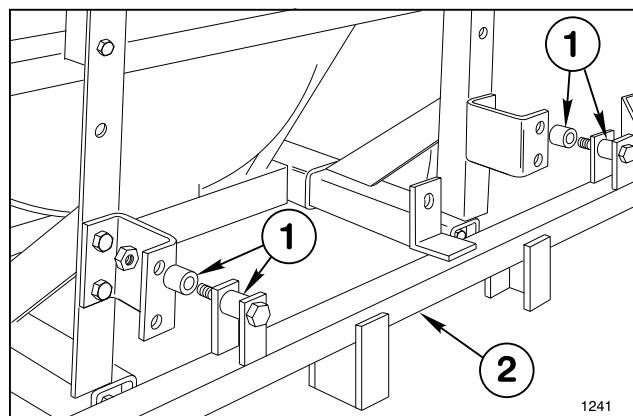
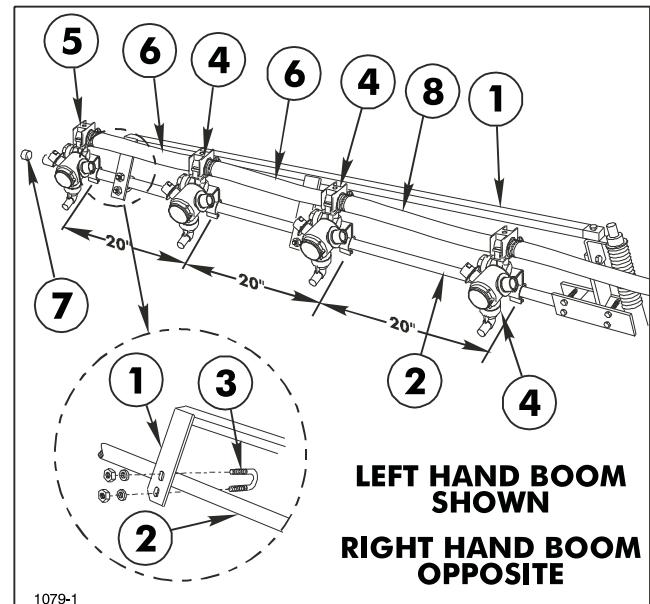
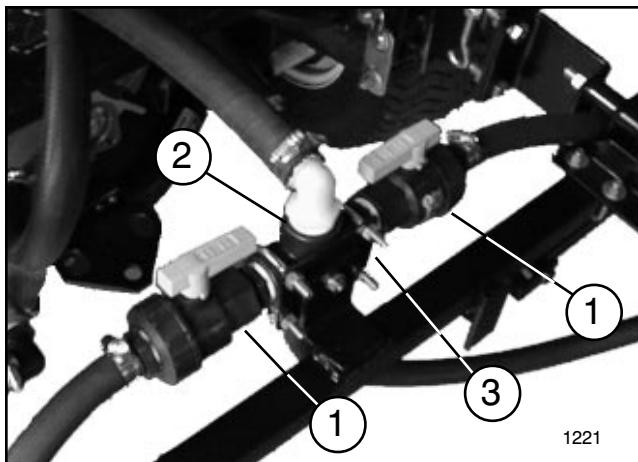

FIG. 12
FIG 15
FIG. 16
5. Position a Spacer Tube between the lugs on each side of the Main Frame tube and between Main Frame and Boom Mounting Brackets. Insert a 1/2" x 3-1/2" cap screw through the lugs and spacers. Secure the Main Frame to the Boom Mounting Brackets with lock nuts. See FIG. 12.
13. Attach the L.H. Boom Support Assembly to the Pivot Assembly, using a 5/16" x 1-1/2" cap screw and lock nut. See FIG. 15 & 16.
14. Secure the two plates of the Boom Support Assembly to the Extension Boom Pipe, using two (2) 1/4" U-bolts, (4) lock nuts and flat washers. See FIG. 15.
17. Attach three Double Barb Turret Bodies and one Single Barb Turret Body with Clamp Assemblies on each Extension Boom Pipe as shown in FIG. 15.
18. Level Nozzles and space 20" apart. Connect the Turret Body Assemblies with 3/4" x 19" Jumper Hoses and a 3/4" x 21" Jumper Hose. Secure with hose clamps. See FIG. 15.
**19.** Apply thread sealer and install (2) 1" Ball Valves into opposing ports of 1" Cross using (2) 1" Close Nipples. See FIG 16.
**23.** Mount Cross Base to Boom Frame using (1) 5/16" x 3/4" carriage bolt and flange nut. See FIG. 16.
**24.** Mount Cross Assembly to Cross Base, as shown in FIG. 16, using (2) 5/16" U-Bolts and (4) flange nuts.
**25.** Attach other end of the 1" x 64" Hose attached to Ratchet Valve earlier to the 90° Hose Barb in top of Cross. Secure with (1) 1" hose clamp.
**26.** Attach a 3/4" x 50" hose to L.H. Ball Valve and secure with hose clamp. Route hose under Spacer Tube between Boom Frame and Boom Mount toward L.H. Extension Boom. See FIG. 12 & 16. Mark Hose and cut to proper length. Attach hose to Double Barb Turret on inside of L.H. Extension Boom using hose clamp. See FIG 15. Repeat for R.H. Extension Boom.